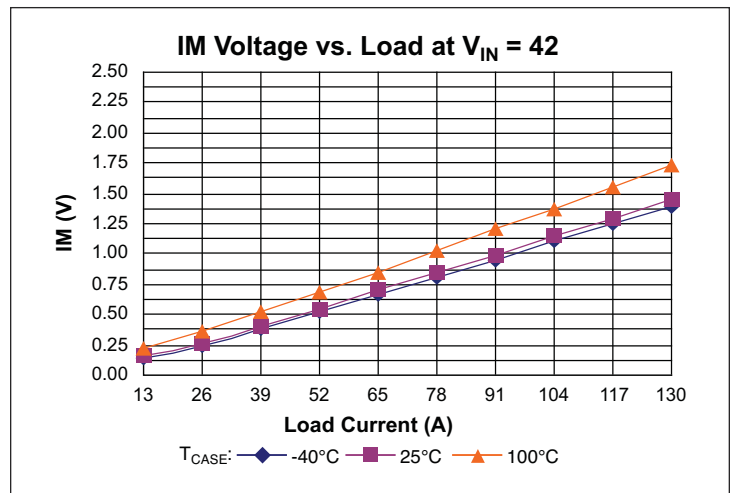

Figure 14 – IM voltage vs. load
**Current Monitor (IM)** pin provides a voltage proportional to the output current of the VTM module. The nominal voltage will vary between 0.15 V and 1.53 V over the output current range of the VTM module (See Figures 14–16). The accuracy of the IM pin will be within 25% under all line and temperature conditions between 50% and 100% load.